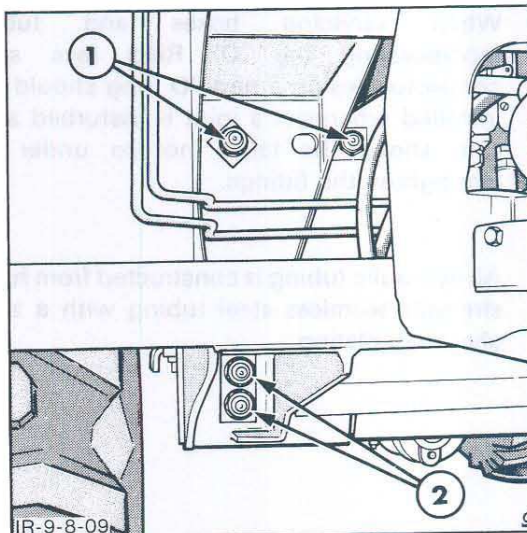

Figure 10
7. Remove the mainframe attaching nuts and bolts, Figure 10.